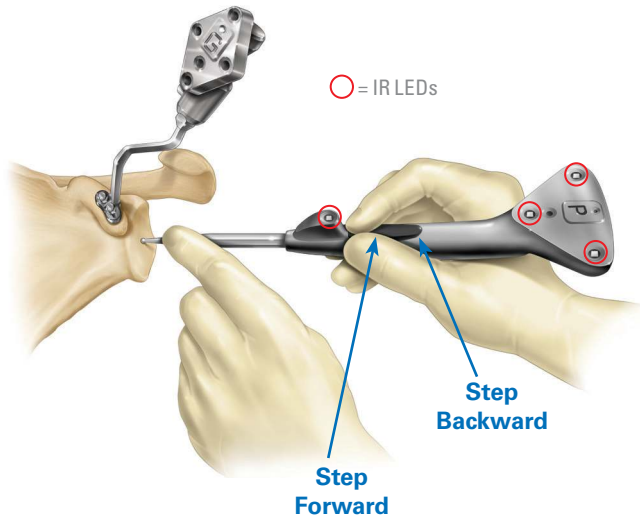

Figure 30a
Trackers may be paired before or after selecting the patient information. Before beginning registration, ensure that the G Tracker is completely seated on the coracoid block. Press the Probe Tracker (P) with the index finger on the Forward button making sure not to obstruct the IR LED between the button and the probe tip (Figure 30a).